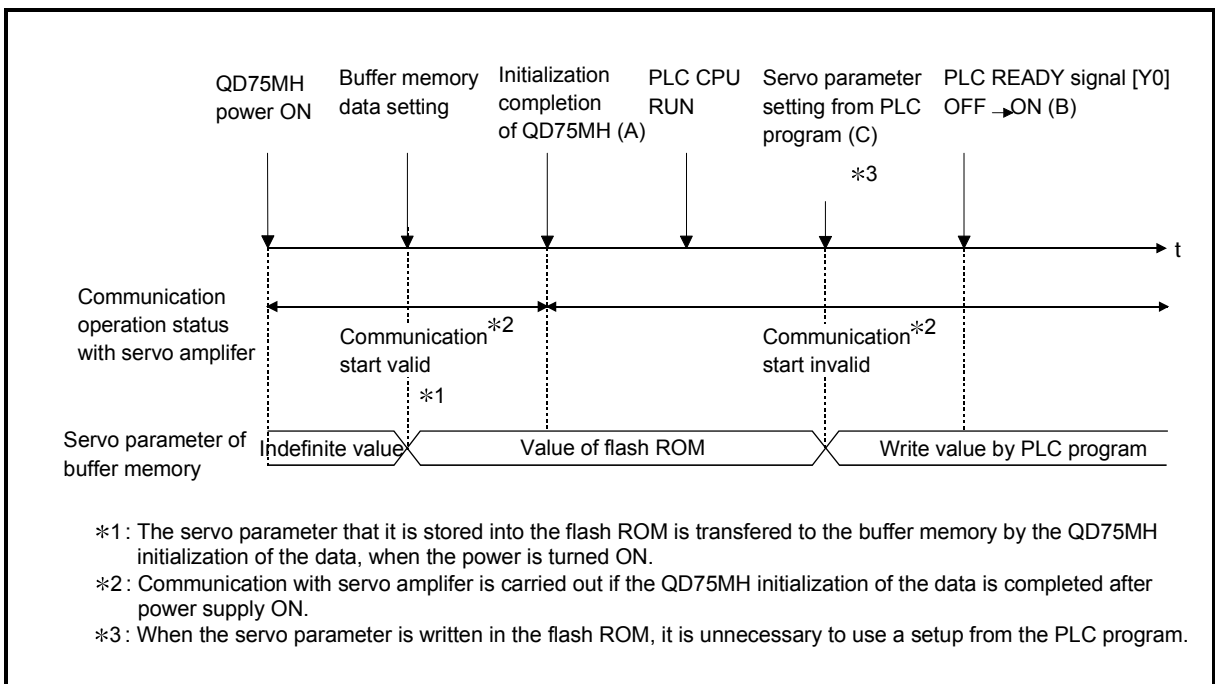

Fig. 7.1 Operation timing in the servo parameter transfer of the buffer memory
Communication start timing to the servo amplifier: Initialization completion (Fig. 7.1 A)
Communication start timing to the servo amplifier: The data written from PLC program before the PLC READY signal [Y0] ON (Fig. 7.1 B).
Transfer the servo parameter : The data written from PLC program before the PLC READY signal [Y0] ON (Fig. 7.1 C).
(2) Servo parameter transfers when servo amplifier had started after the PLC READY signal [Y0] is turned OFF to ON (Fig. 7.1 B)